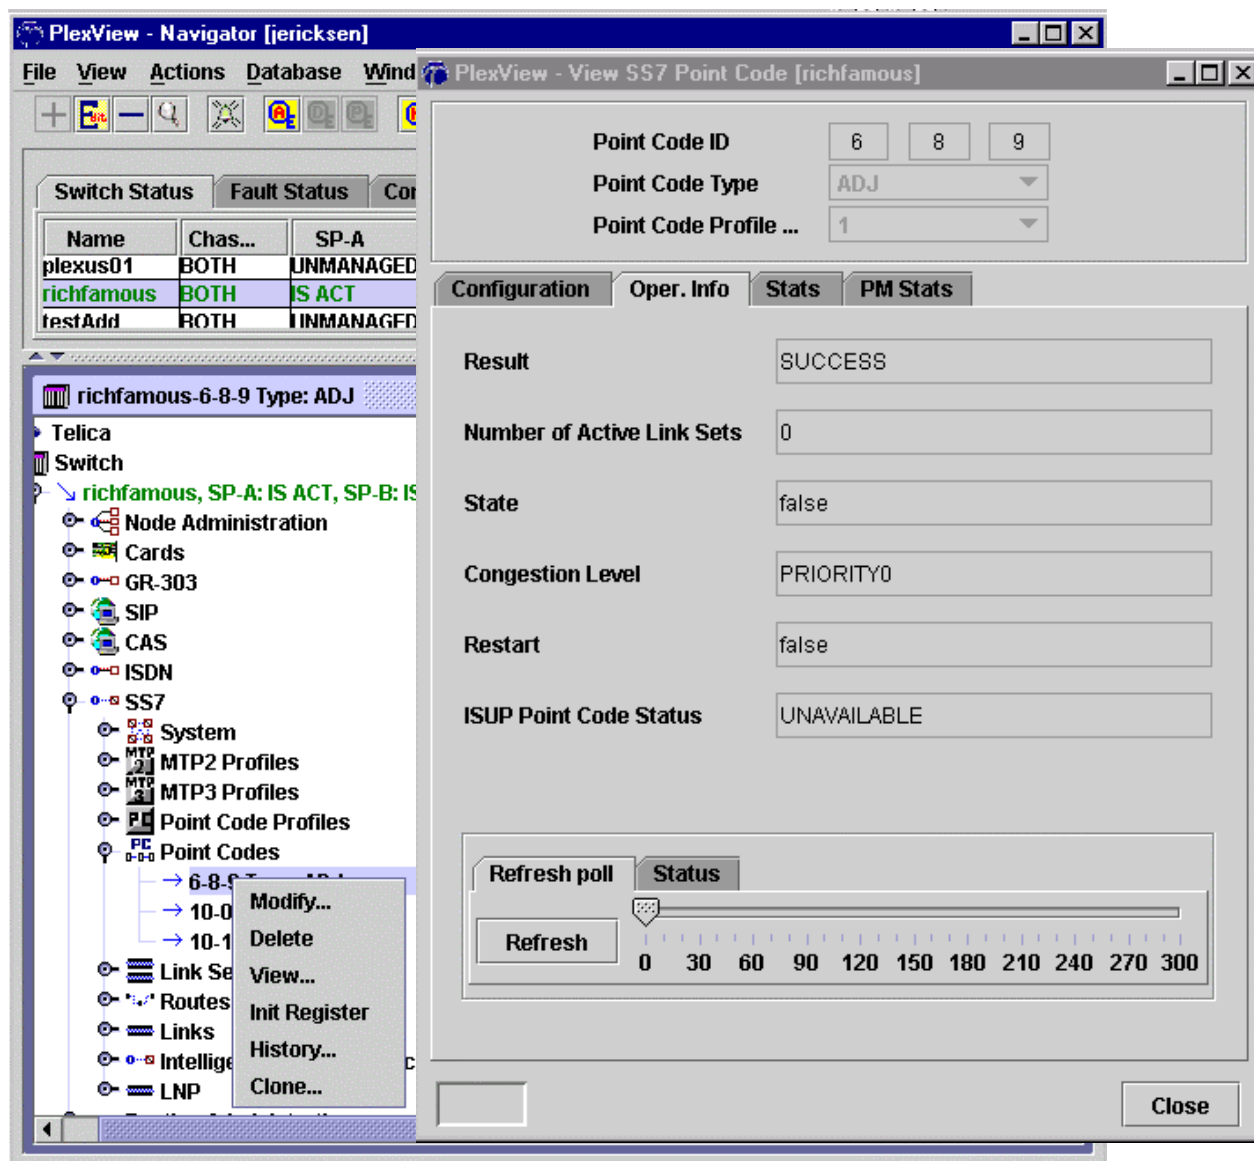

Figure 1. SS7 Operational Information
5. Retrieve status of a point code. Double-click *SS7* and *Point Codes*. Right-click the desired point code, select *View* and then *Oper. Info*. Click *Refresh* near the bottom to get latest information. See Figure 1.